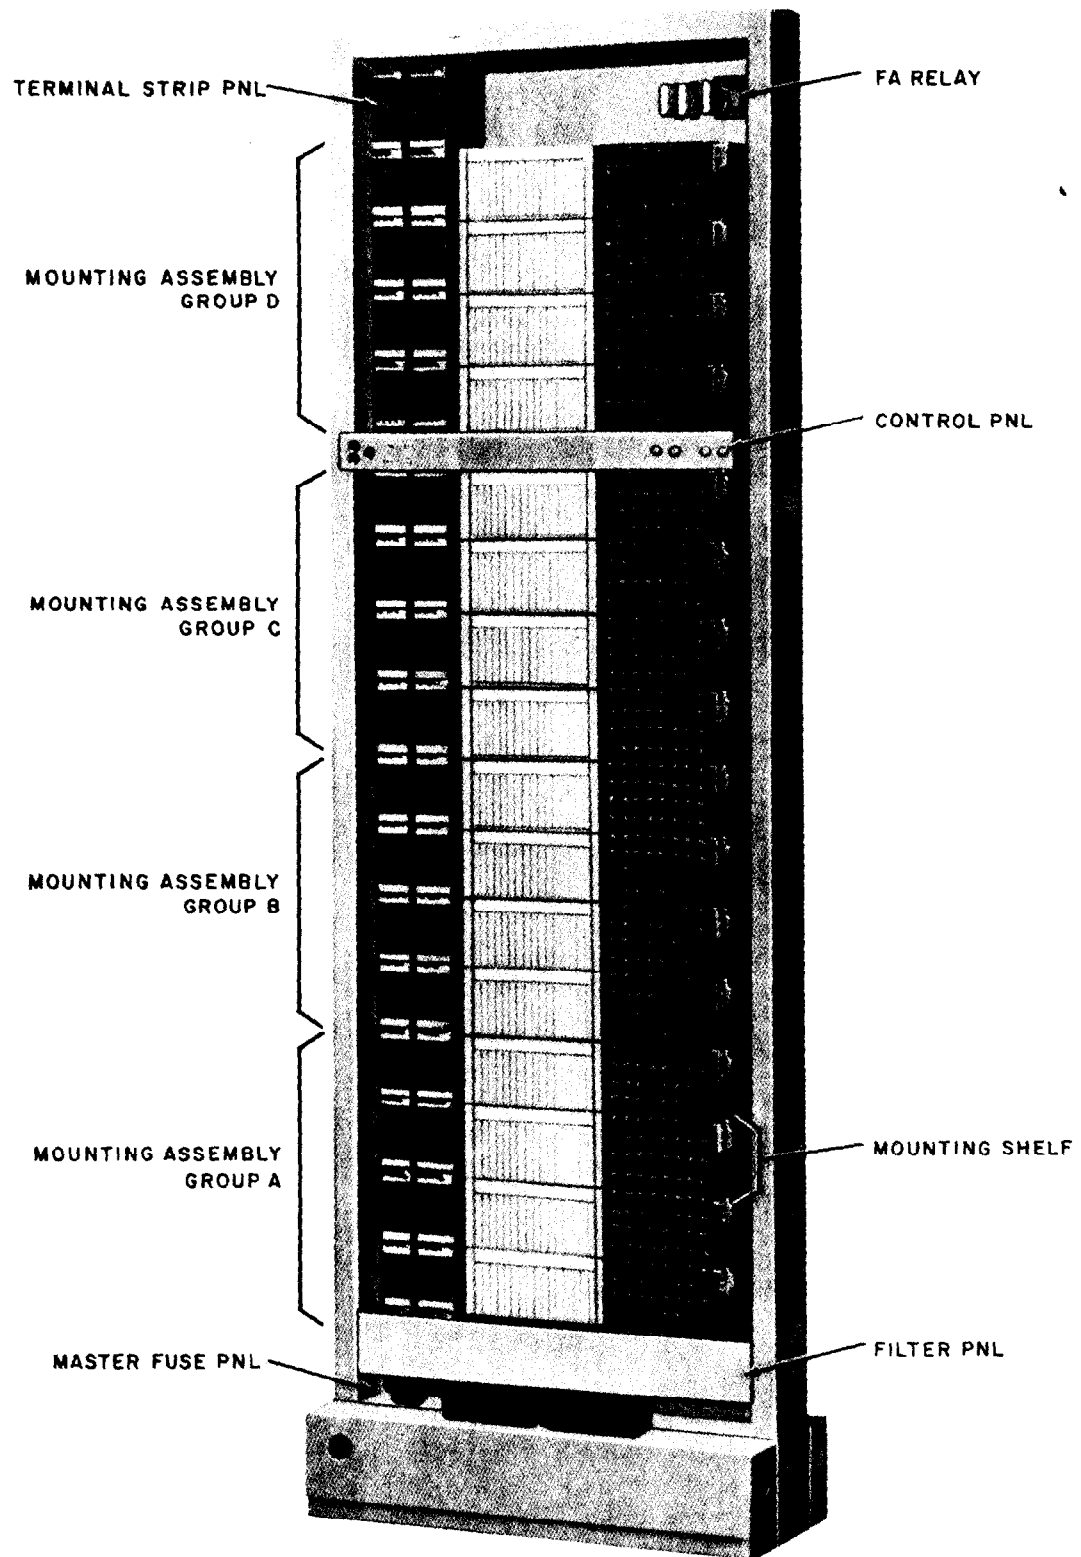

Fig. 3—Short Link DC Data Set Frame J34011A-1, Front View
2.02 The data set will be located in a Short Link DC Data Set Frame (J3A011A-1) of a No. 1 ESS-ADF office as shown in Fig. 3. The frame will hold a maximum of 256 data sets in four assemblies which are per J3A011AB-1 and are designed A, B, C, and D. Each assembly is composed of four mounting shelves which are
- (a) A master fuse panel per J3A011AA-1 (see Fig. 3) is provided to furnish the necessary +24 volts and -48 volts to each mounting shelf of the frame. The master fuse panel also provides the power that is required for other functions of the frame. The power for each shelf is provided through two fuses for each required voltage which means that each shelf will still have power even though the fuse for one of the voltages has blown.
3.06 The Data Set 110C is equipped with a current fail driver circuit which operates a ferrod in the master scanner of No. 1 ESS-ADF office. When the receiver circuit recognizes a current failure on the receive loop, a ground level signal is applied to the ramp driver circuit and to the current fail driver. This causes the current fail driver to cut off and open the path of the ferrod. With the current path of the ferrod via leads CF3 and CF0 opened, the master scanner in the ESS office recognizes this as an alarm condition. Each data set (mounted in the Short Link DC Data Set Frame shown in Fig. 3) will be connected to an individual ferrod circuit in the master scanner equipment.